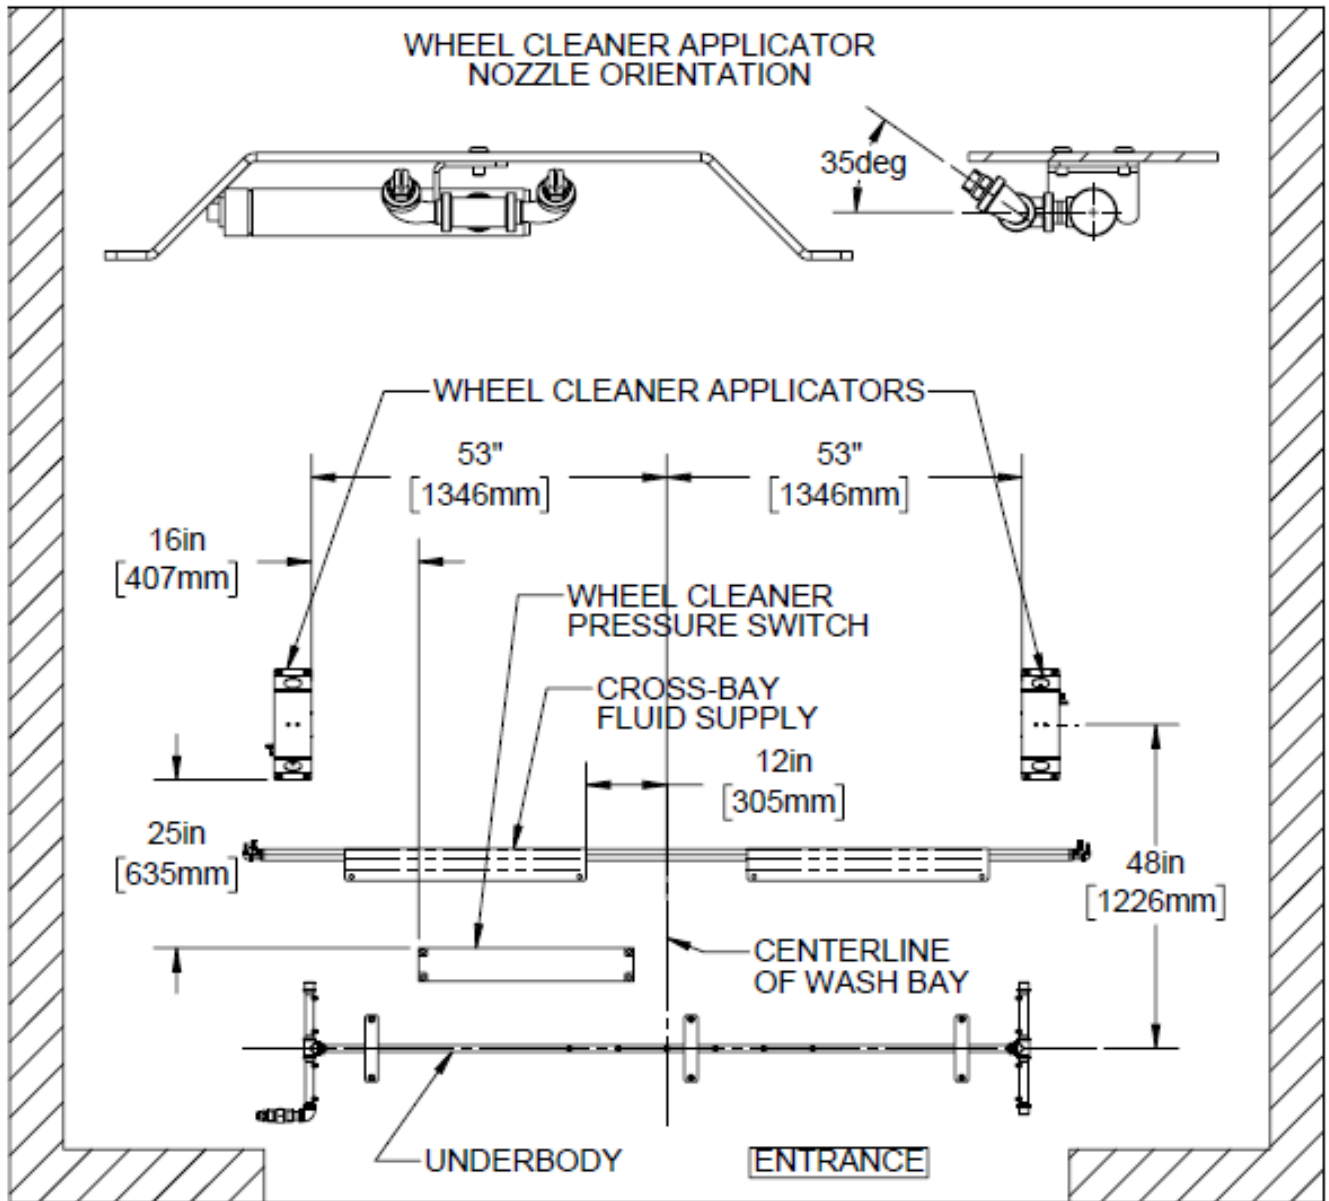

Figure 125 - Wheel Cleaner Applicators and Pressure Switch Mounting Locations
- Use Figure 125 as a reference for where to mount the Wheel Cleaner applicators and the Pressure Switch and Cross-Bay Fluid Supply manifold (when ordered). This is a suggested layout. Other, more suitable locations may be available. The applicator nozzles are intended to point towards the center of the bay.